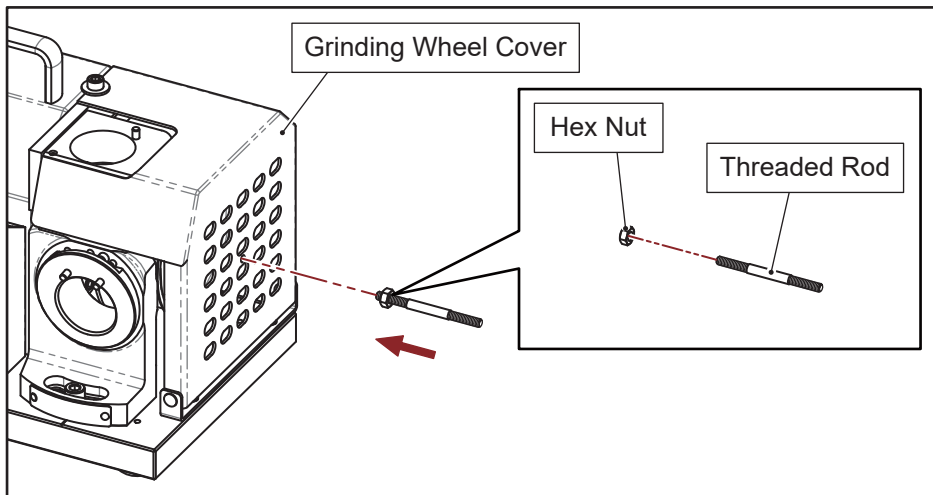

Fig. 5-1
1. Thread the hex nut onto the suitable position of the threaded rod, align the end of the threaded rod containing the hex nut to the tapped hole of grinding wheel cover, and turn the threaded rod clockwise to thread the rod into the grinding wheel cover and tighten lightly. (Fig. 5-1)